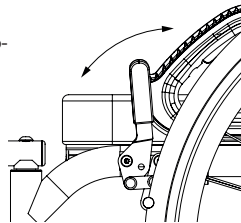

Fig. 3
- To engage the locks (Fig. 3), push wheel lock handle forward (for push-to-lock type) or pull wheel lock backward (for pull-to-lock type) until the lock is fully engaged.